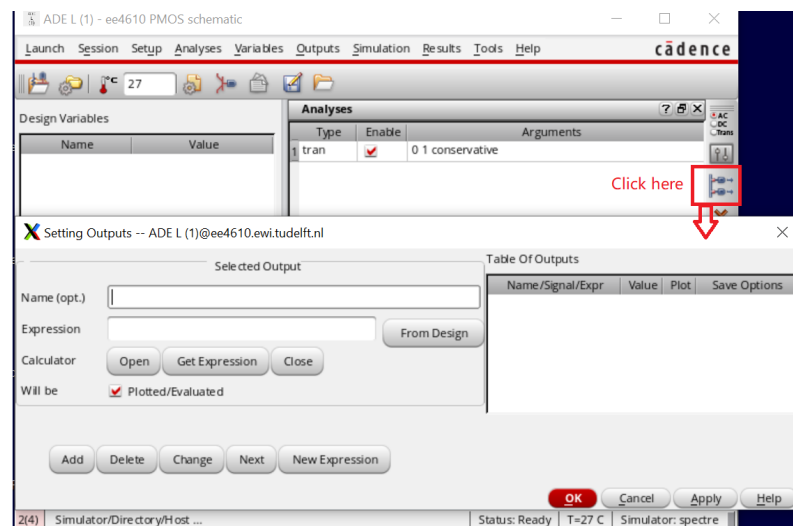

Figure 12: Simulation setup 2
- Follow Fig. 12 to select the signal that you would like to observe by clicking "From Design". Then click the signal in schematic. These selected signals will appear in the simulation window.